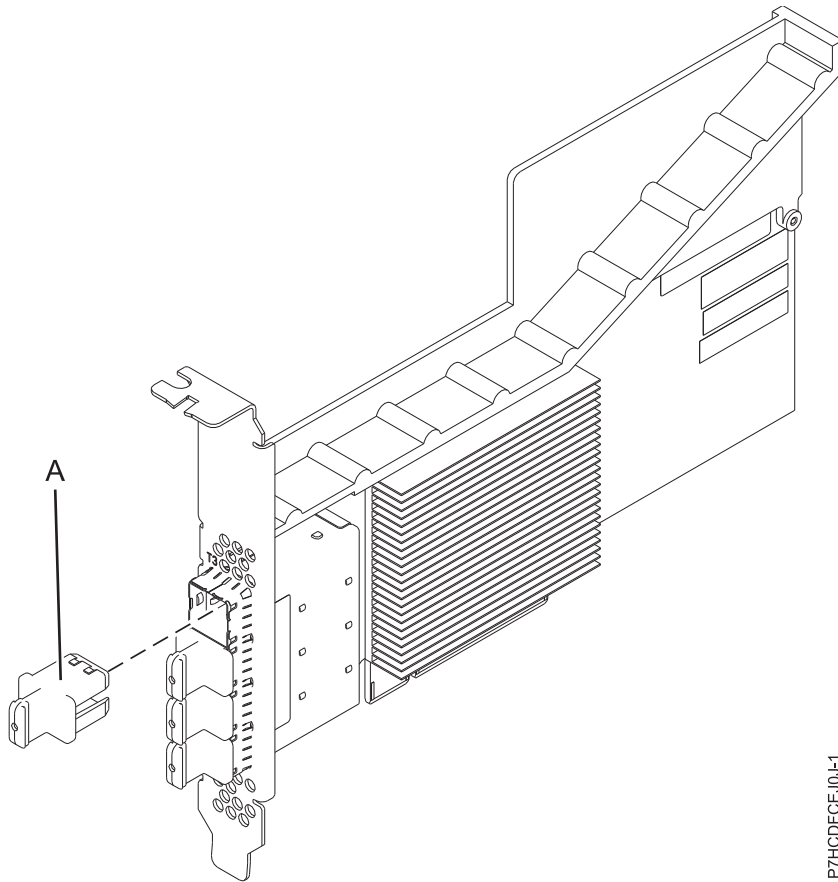

Figure 16. PCIe3 RAID SAS adapter
The PCIe3 RAID SAS quad-port 6 Gb Adapter is a PCI Express (PCIe), generation 3, RAID SAS adapter that has a low-profile, short-form factor, but packaged for full height installation. The adapter is used in high-performance and high-density, serial attached SCSI (SAS) applications. It supports the attachment of SAS disk and SAS tape by using four mini SAS high-density (HD) x4 connectors that allow the physical links to be used in various narrow and wide-port configurations. SAS tape attachment is only supported in a single adapter configuration and cannot be mixed with SAS disk on the same adapter. The adapter does not have write cache. Figure 16 on page 45 shows the PCIe3 RAID SAS quad-port 6 Gb Adapter.
Figure 16 on page 45 shows the adapter. The connector plug (A) is installed in an empty port and prevents damage to that port whenever a cable for the adjacent port connectors is plugged-in or removed.